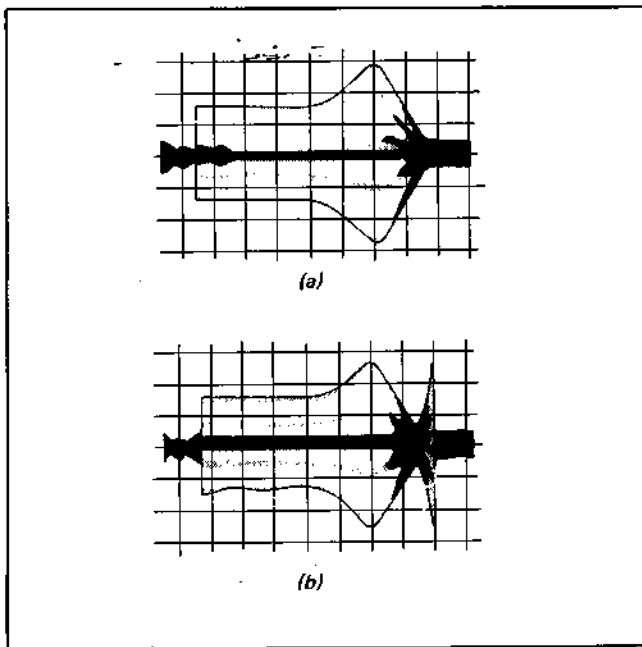
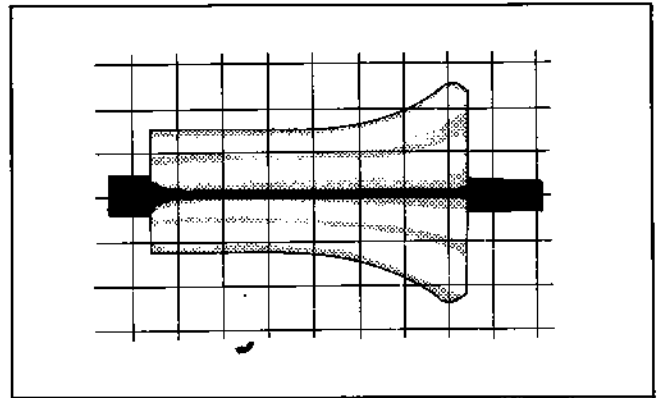
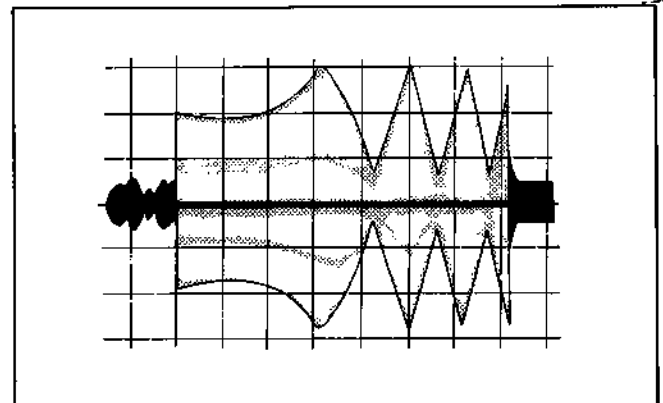

Fig. 4-20.
Fig. 4-21.
Fig. 4-22.
- i) If the exit free waveform is within the range indicated in Fig. 4-20 (a), (b), proceed from ste 5).
- ii) If the peak of the ~~exit free~~ waveform is smaller than that illustrated in Fig. 4-20 (a) (e.g. Fig. 4-21), loosen the lock screw, then turn the capstan adjustment screw until the waveform is within the specified range.
- iii) If the peak shape of the exit free waveform differs from that shown in Fig. 4-20 (b) (e.g. Fig. 4-22), loosen the lock screw, then turn the capstan adjustment screw clockwise until the waveform is within the specified range.
- 5) Lock the capstan lock screw. (Turn clockwise until it stops, then turn about 30° more. At this point, the exit free waveform will change slightly, and if it goes out of the range shown in Fig. 4-20 (a), (b) return to ste 4) and re-adjust.
- 7) Confirm and adjust according to 4-1-3, exit side adjustment procedure items 4), 5).